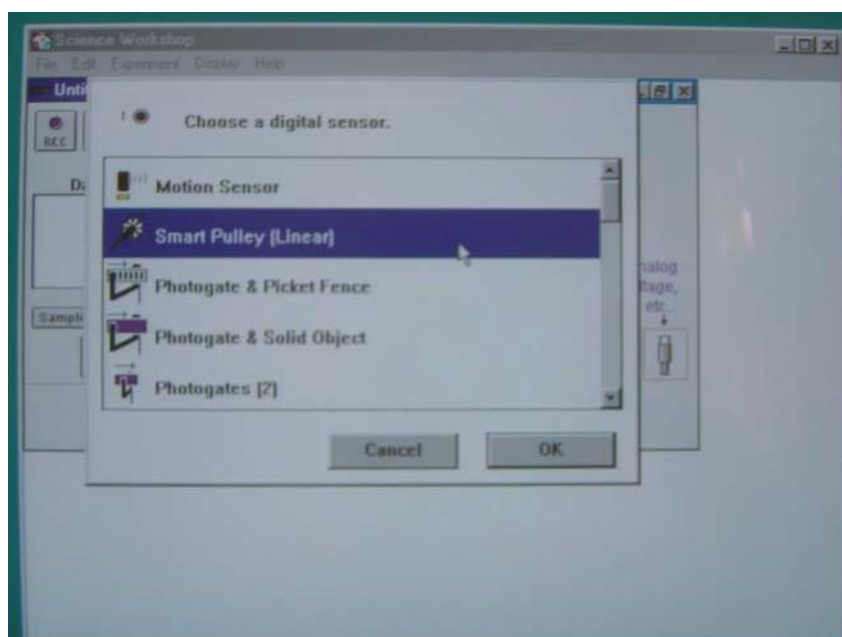

Fig. 1.3 Choose a digital sensor
3. Then a dialog < choose a digital sensor > appears automatically. Choose < smart pulley (linear) > and press the < OK > button. See Fig. 1.3